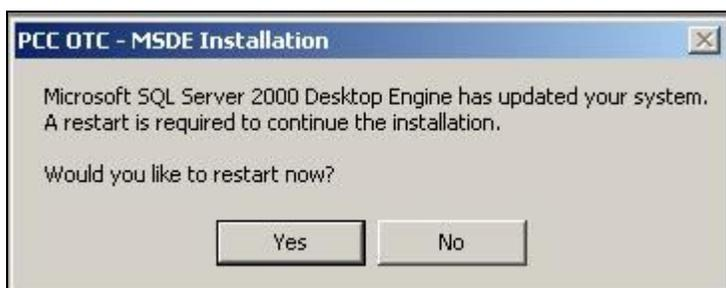

Figure 2.7
11. The following screen appears notifying the user that the system is updated with MSDE (Figure 2.7). Click 'Yes' to restart the computer.